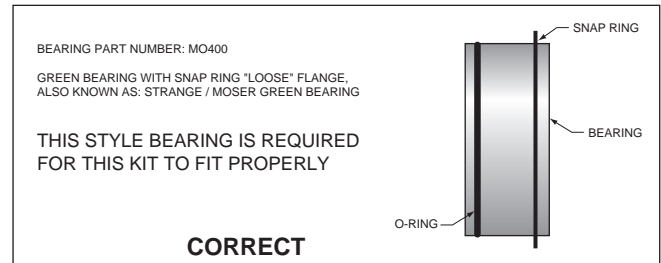
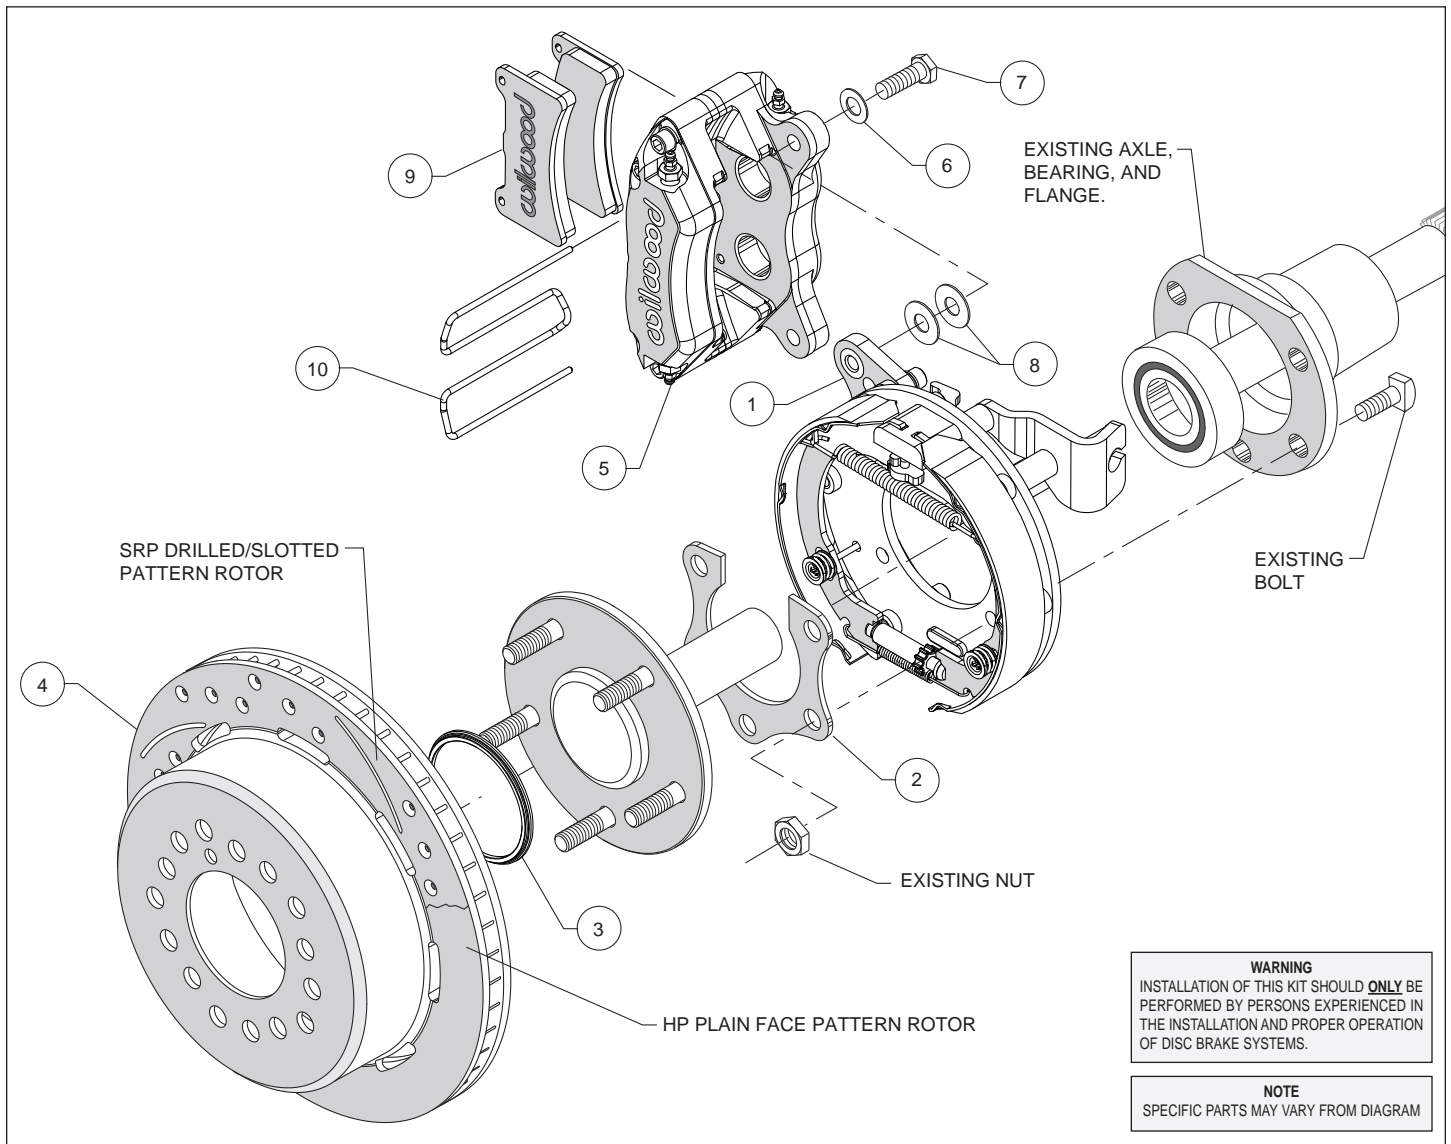
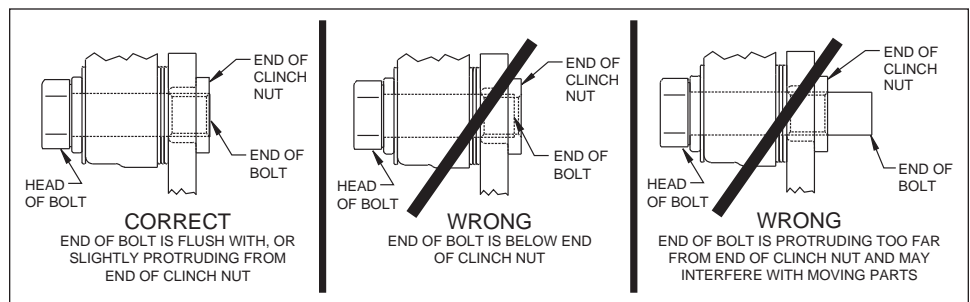

Figure 2. Loose Fit Bearing Configuration
Figure 3. Typical Installation Configuration
Figure 7. Clinch Nut Engagement Diagram
Assembly Instructions (numbers in parenthesis refer to the parts list, and Figure 3 on the preceding pages): **CAUTION:** All mounting bolts must fully engage clinch nuts. Be sure to check that all bolts are either flush or protruding through flanged side of clinch nut after shimming, Figure 7.
- Determine that the appropriate snap ring style green bearing has been installed on the axle, as shown in Figure 2. Temporarily remove snap ring from bearing. Orient the bracket assembly (1) as shown in Figure 3 and Photo 1 and slide it onto the axle and over the bearing. Reinstall snap ring on bearing. Insert the axle and bracket into the axle housing. Ensure that the bracket assembly backing plate fits flush against the axle housing flange.
- Install the bearing retainer (2) with the opening pointing upward and the bearing relief step facing inward (toward the bearing), as shown in Figures 3 and 6. Secure retainer and bracket assembly to the axle housing flange using the Original Equipment Manufacturer (OEM) bolts and nuts, Figure 3. Apply red *Loctite*® 271 to the OEM bolt threads and torque to OEM specifications.
- Slide the rotor registration adapter (3) onto the axle register on the axle flange with the smaller O.D. facing toward the rotor/hat (4), Photo 2. Align the correct hole pattern in the rotor/hat with the stud pattern on the axle flange and slide into place, Figure 3 and Photo 3. **NOTE:** The rotor/hat must fit flush against the axle flange or excessive rotor run out may result. Install three lug nuts (finger tight) to keep the rotor/hat assembly in place while continuing with the installation. **NOTE:** Some OEM and after market axles come with stud sizes larger than 0.50" diameter. Verify stud size and have a qualified machine shop drill the bolt circle of the hat/rotor to the correct stud size, if necessary.
- **NOTE:** Please reference the caution statement at the beginning of the assembly instructions. Mount the caliper (5) onto the caliper mounting bracket (1) using bolts (7) and washers (6), as shown in Figure 3. Initially place two .035" thick shims (8) on each bolt between the caliper and the bracket, Photo 4.
Temporarily tighten the mounting bolts and view the rotor (4) through the top opening of the caliper. The rotor should be centered in the caliper, Photo 5. If not, adjust by adding or subtracting shims between the bracket and the caliper. Always use the same amount of shims on each of the two mounting bolts. **NOTE:** The end of each bolt must be flush with or slightly protruding from the head of the clinch nut, as shown in Figure 7. If necessary place spare shims between washer (6) and caliper mounting ear to achieve the proper clinch nut engagement. Once the caliper alignment and clinch nut engagement are correct, remove the bolts one at a time, apply red *Loctite*® 271 to bolt threads, and torque to 40 ft-lb.
- Install the disc brake pads (9) into the caliper, with the friction material facing the rotor (4), and secure in place using pad clip retainer (10), Photo 6.